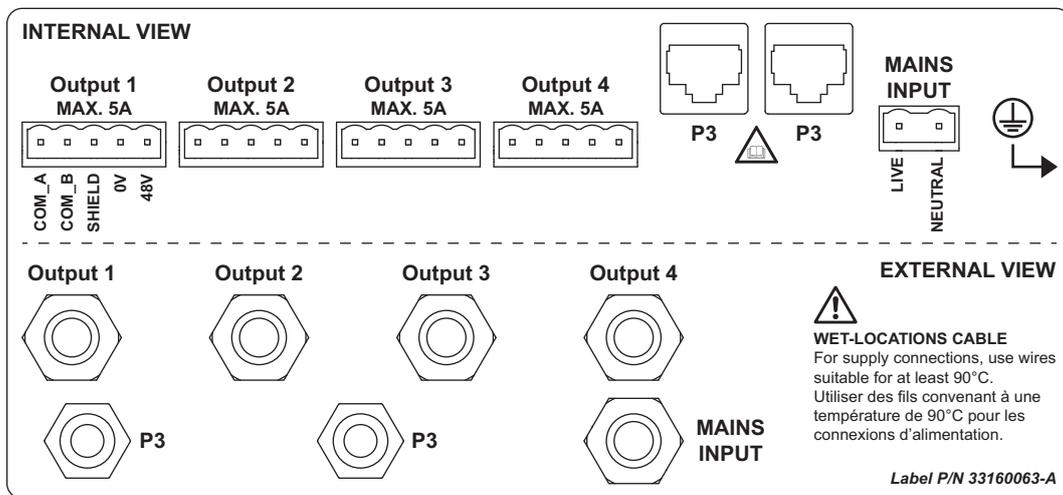

Figure 5: Power and data connections, external and internal views
6. Refer to Figure 5. Connect the live conductor (with brown or black insulation) to the live terminal. Connect the neutral conductor (white or blue insulation) or in some cases the second live conductor to the neutral terminal.
6. Referring to Figure 5,